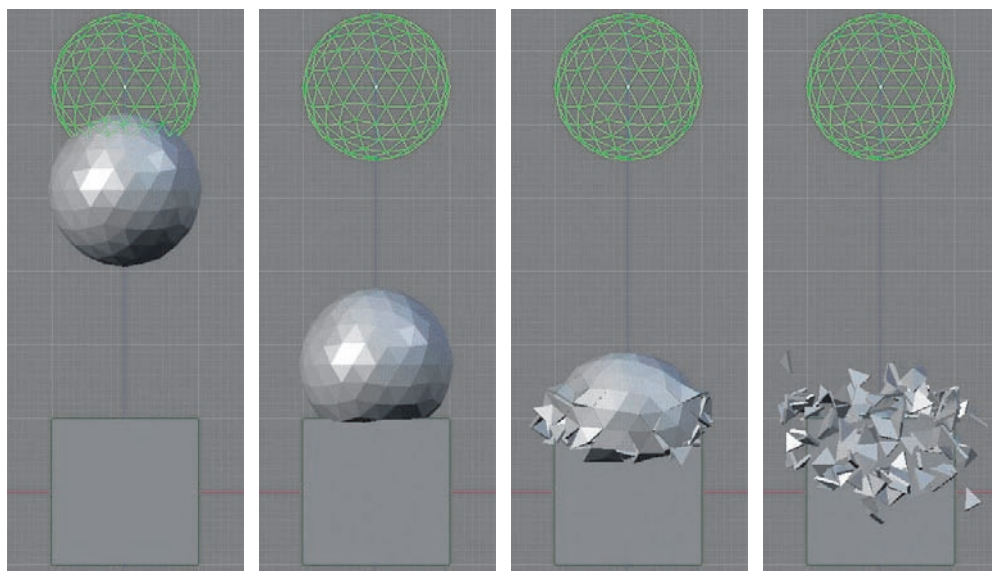

Figure 3.75 Demolition in action
6. After the script link is in place, you're all set to start the simulation. Start at frame 1 and press `Alt+A` in the 3D window to begin the simulation. The sphere should drop and collide with the cube, as shown in Figure 3.75. Play around with the settings to see what happens when you change them. Note that if you want the cube to demolish in an interesting way, you will probably want to subdivide it further.